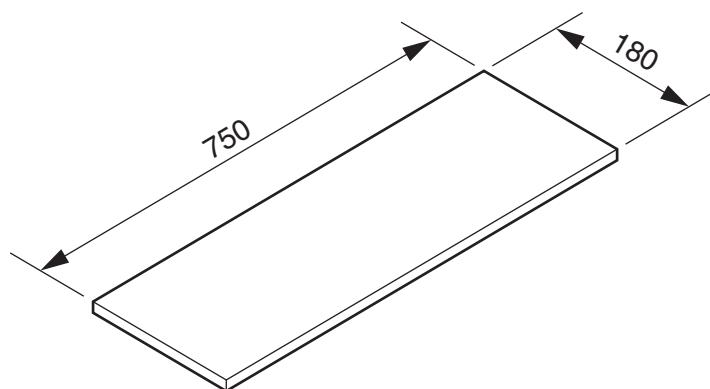

Fig. 6
- (b) Fig. 6 shows a shelf made from 15 mm thick manufactured board.